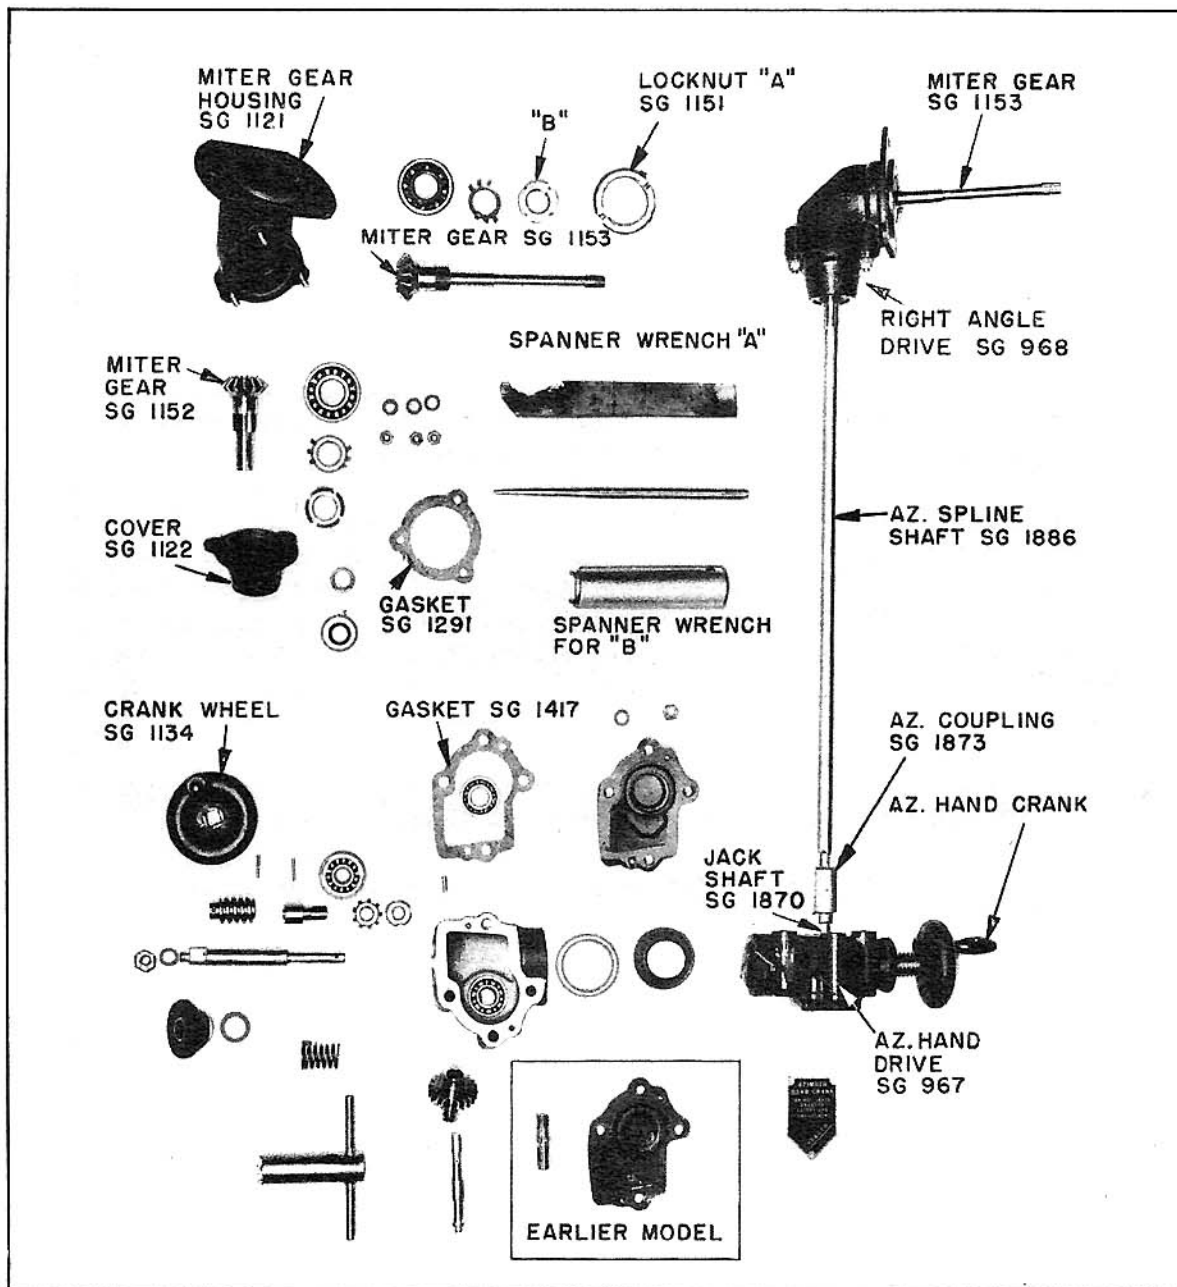

FIGURE 14
e. Azimuth and Elevation Hand Drives (SG 967 and SG 943). - (1) (See Figures 14 and 19). The gears in these 2 units are easily reached by removing the covers.
(2) If spline shaft needs replacing, remove worm gear and shaft from ball bearing and then push spline out. On some of the earlier models this replaceable shaft was not provided. (See right angle drive paragraph 3.f.)
(3) Check spiral gear for damaged teeth and replace gear if necessary. Also check self-aligning bearing for satisfactory condition and operation, replacing it if necessary.
(4) If roller bearings require replacement, be sure that side of bearing with manufacturer's name on it is placed on the inside. Put a small amount of Beacon M-285 grease on the bearings and in the housing before attaching the cover.
f. Right Angle Drive. - (1) (See Figure 14.) This unit is attached to the unit housing at the bottom of the azimuth gear box. If a right angle drive is removed from a turret which is not being overhauled, it will be necessary to remove part of the flange of the drive. Before reassembling a right angle drive unit check gear box cover against detail drawing (PL. 4, Section IV) and remove left portion of flange (indicated as 96 on the drawing). This will permit easier disassembly and reassembly of the unit if there is a need to do so at a later date.